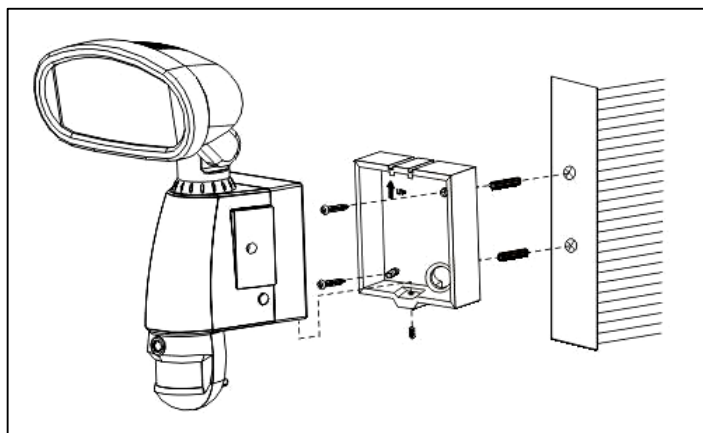

Fig. 9.1
2. Mount the 939ASD to the wall by provided screws or crossbars (see fig.9.1 & 9.2)